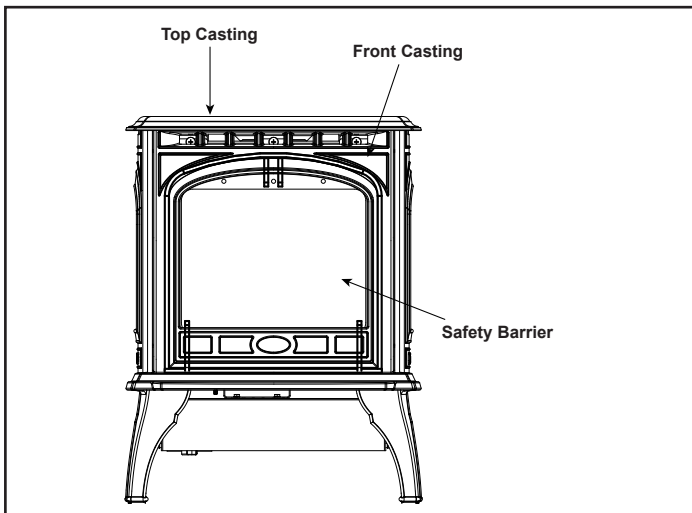

Figure 10.1 - Remove Casting
2. Gently remove top casting from unit and set aside on prepared work surface. See Figure 10.1
3. Remove front casting by grasping it at the top and sliding straight up. Set aside on prepared work surface. See Figure 10.1.
Reinstall the glass frame by fastening the (3) phillips head screws at the top of the glass frame. Tighten until snug. Do not overtighten. See Figure 10.1 & 10.2 for reference. Reinstall front casting.